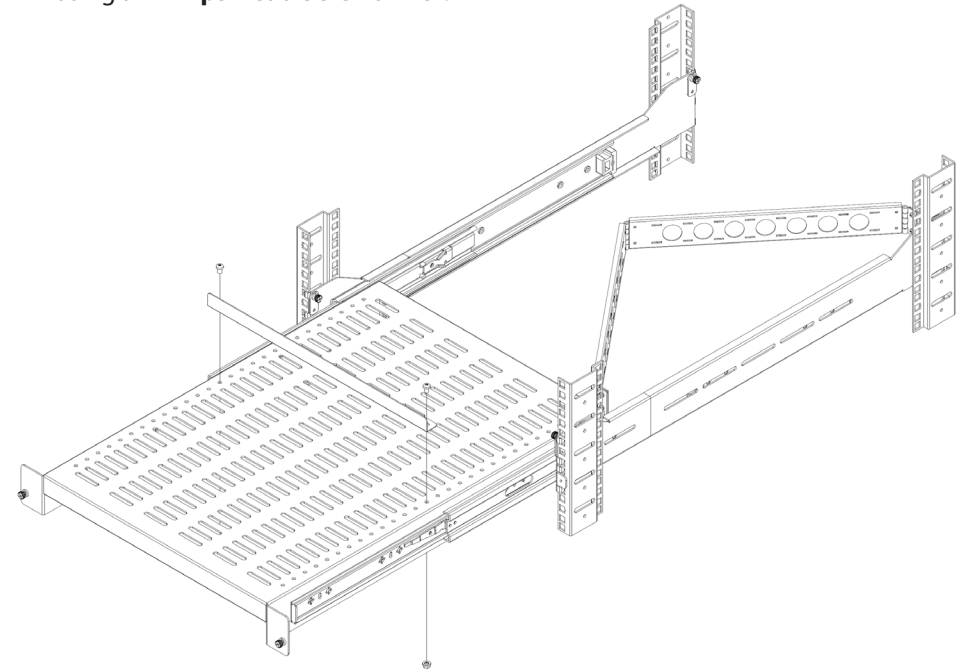

Figure 6
- Align the **Screw Holes** of the **Rear Stop Bracket** with the **Rear Stop Bracket Mounting Holes** (See Figure 6).